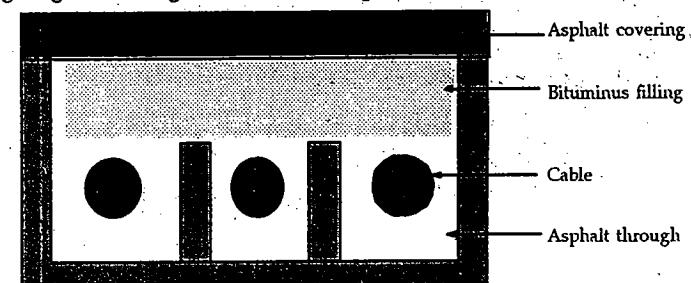

Fig. 3.13 Solid system using Asphalt through.
3) Solid system : In this system of cable laying, cable is laid in a through or open pipe placed in earth along the cable route. The through is made up of treated wood or stone core or cast iron. After laying the cable through the filled with asphalt or bituminous and then covered. This method of laying cable is rarely used now a days as it is more expensive and it requires skilled labour. The current capacity of cable in this system is less, due to poor heat dissipation facilities. Fig. 3.13 show section of solid system of cable laying. Cables laid in this manner are usually, plain lead covered, as the through affords good mechanical protection.